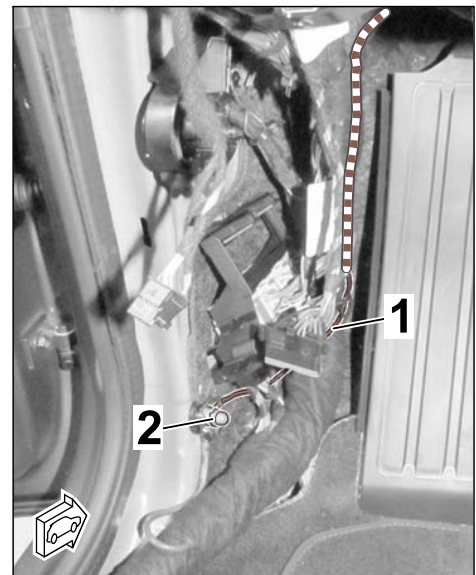

Figure 34
2.7 Route line BN; 1.0² with cable shoe (ground) to the ground pin MB 21 (left-hand drive)/MB 22 (right-hand drive) and fit it (⇒ *Figure 34*).